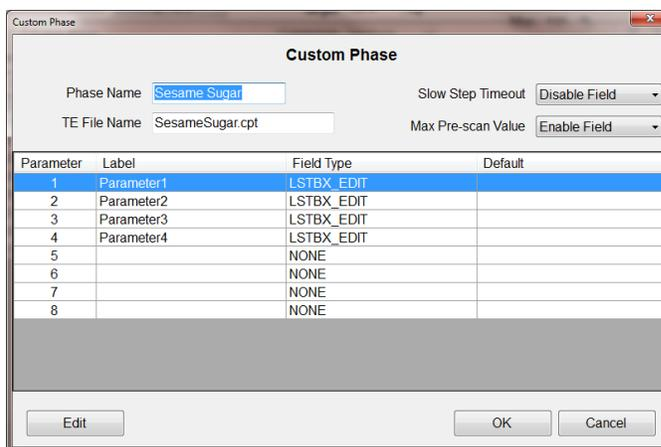

Figure 15-19: Custom Phase Edit Screen
- Enables or disables the Slow Step Timeout field in the Custom Phase screen (Figure 15-19). In this case, since the phase involves only a calculation, a timeout is not necessary.
- Enables or disables the Max Pre-scan value field in the Custom Phase screen (Figure 15-19). This value can be used to prevent the result of the calculation causing an overload on the scale, or an overflow from the container. A Max Pre Scan value **must** be defined when a variable is used as a target weight, so this field is **Enabled**.
Once all the required Custom Phase parameters have been added, click OK to close the Custom Phase edit screen (Figure 15-19).